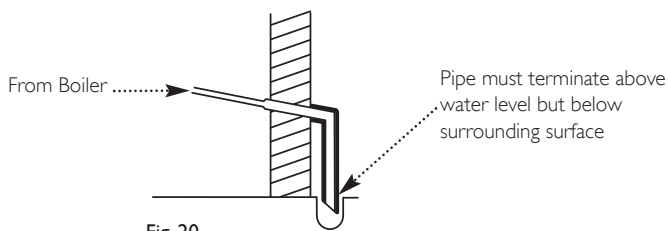

Fig. 20
- iii) to a drain or gully - Fig. 20. Ensure that the condensate can discharge freely (without blockage or restriction of the pipe) into the drain.